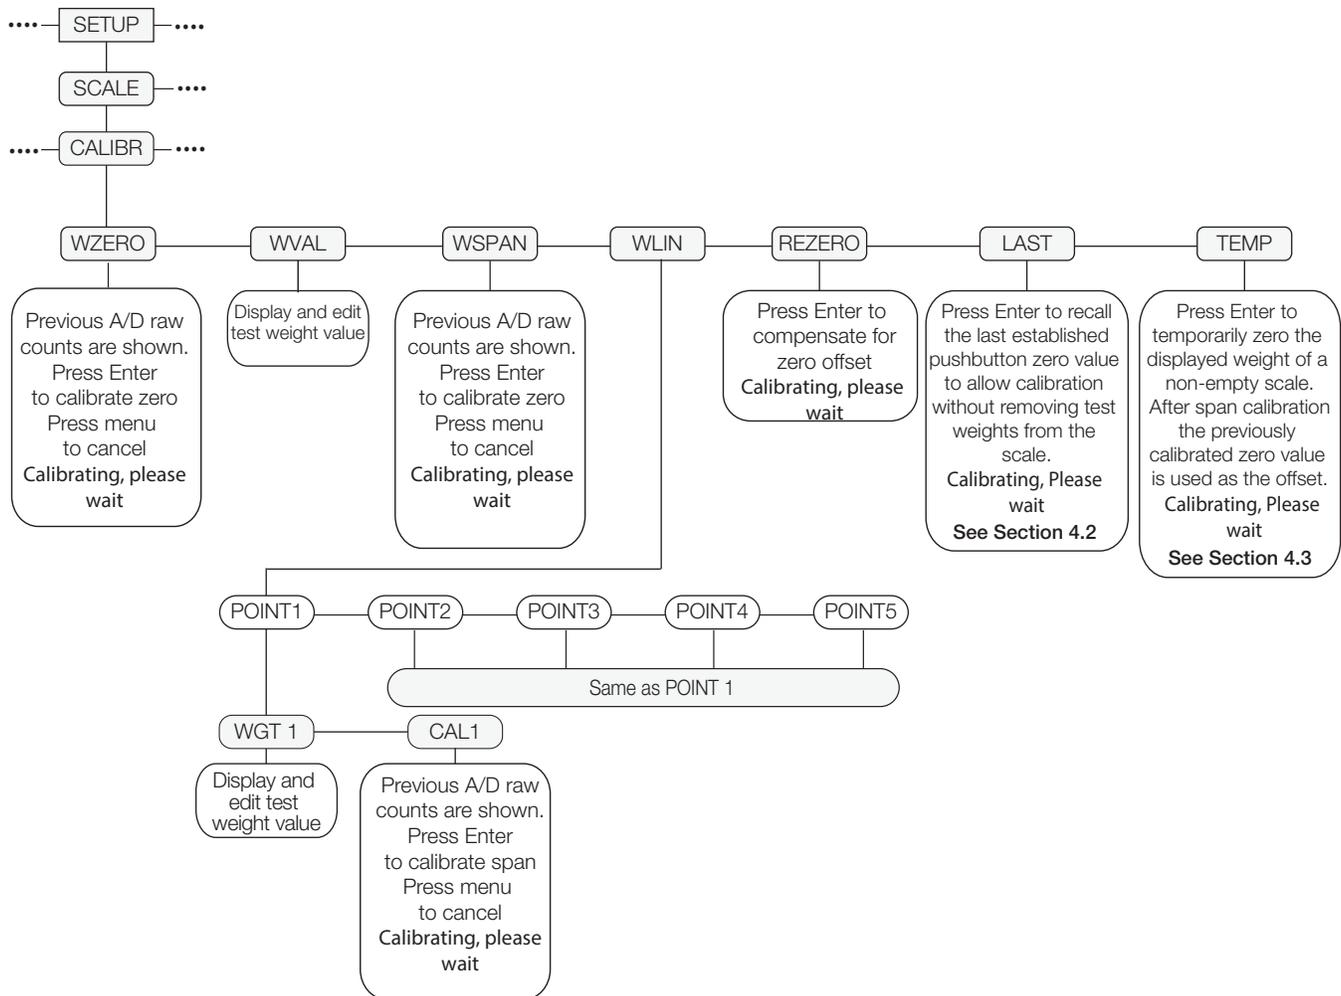

Figure 4-1. Calibration (CALIBR) Menu
1. Put the indicator in configuration mode using the setup switch on the back of the unit, see Figure 3-1, (or use  if audit trail is enabled), and navigate to CALIBR (see Figure 4-1).